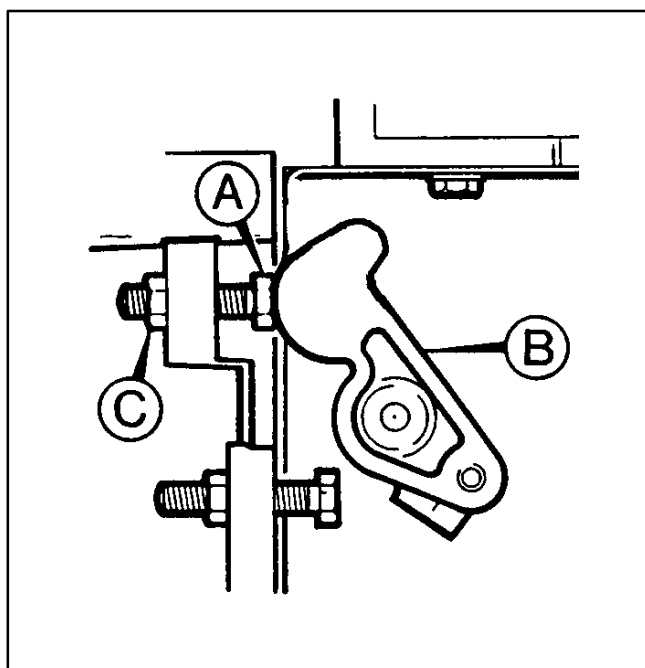
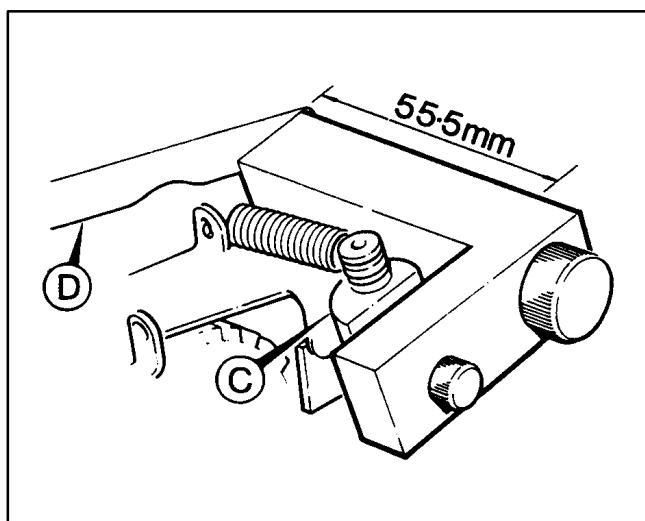

FIGURE 8-42. STOP SCREW AND LEVER
FIGURE 8-43. SETTING THE FUEL RACK NO-FUEL POSITION WITH A GAUGE
**Removing the Fuel Pumps:** To keep from having to remove the gear cover and gauge the no-fuel position (Figure 8-43), one fuel pump should be left in place to preserve the no-fuel position. (Alternatively, if the stop screw thread seal [Figure 8-42, Item A] has not been broken it may be possible to recover the no-fuel position. See Procedure 2, Page 8-46, under Installing the Fuel Pumps.) Remove the pumps as follows:
A. Loosen the stop screw and locknut (A and C in Figure 8-42) and back the screw out (to the left) at least two turns.
D. Gently turn the control lever (Lever B in Figure 8-42) counterclockwise by hand as far as it will go and hold it there. Back out the stop screw (Item A) if it interferes.
2. If all the fuel pumps were removed but the stop screw thread seal is intact (Figure 8-42, Item A) and the gear cover has not been removed, the no-fuel position can be found by turning the stop screw 2 turns *clockwise* so that it backs out to the left. Hold the control lever (B) against the stop screw and perform Steps B, C, E and F in Procedure 1 to install the pumps.
3. Install at least one fuel pump before securing the gear cover so that the no-fuel position can be established. Solidly anchor the fuel rack so that it extends 55.5 mm (2.18 inch) beyond the face of the gear case. Use the gauge available (Figure 8-43) or equivalent means. Perform Steps B, C, E and F in Procedure 1 to install the pumps.